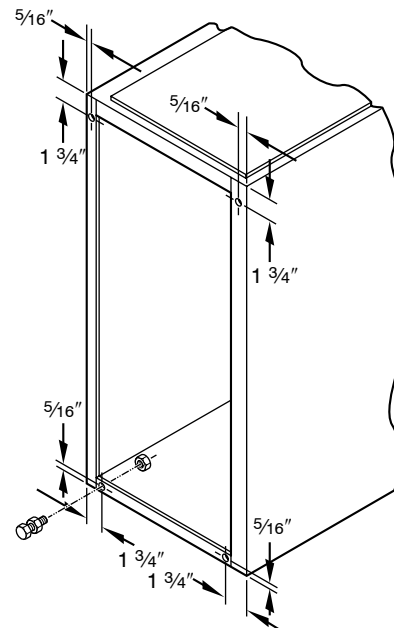

Fig. 12 – Leveling Legs
When furnace is used in upflow position with side inlet(s), leveling legs may be desired. (See Fig. 12.) Install field-supplied, corrosion-resistant 5/16-in. machine bolts and nuts.
1. Position furnace on its back. Locate and drill a 5/16-in. diameter hole in each bottom corner of furnace. (See Fig. 12.) Holes in bottom closure panel may be used as guide locations.